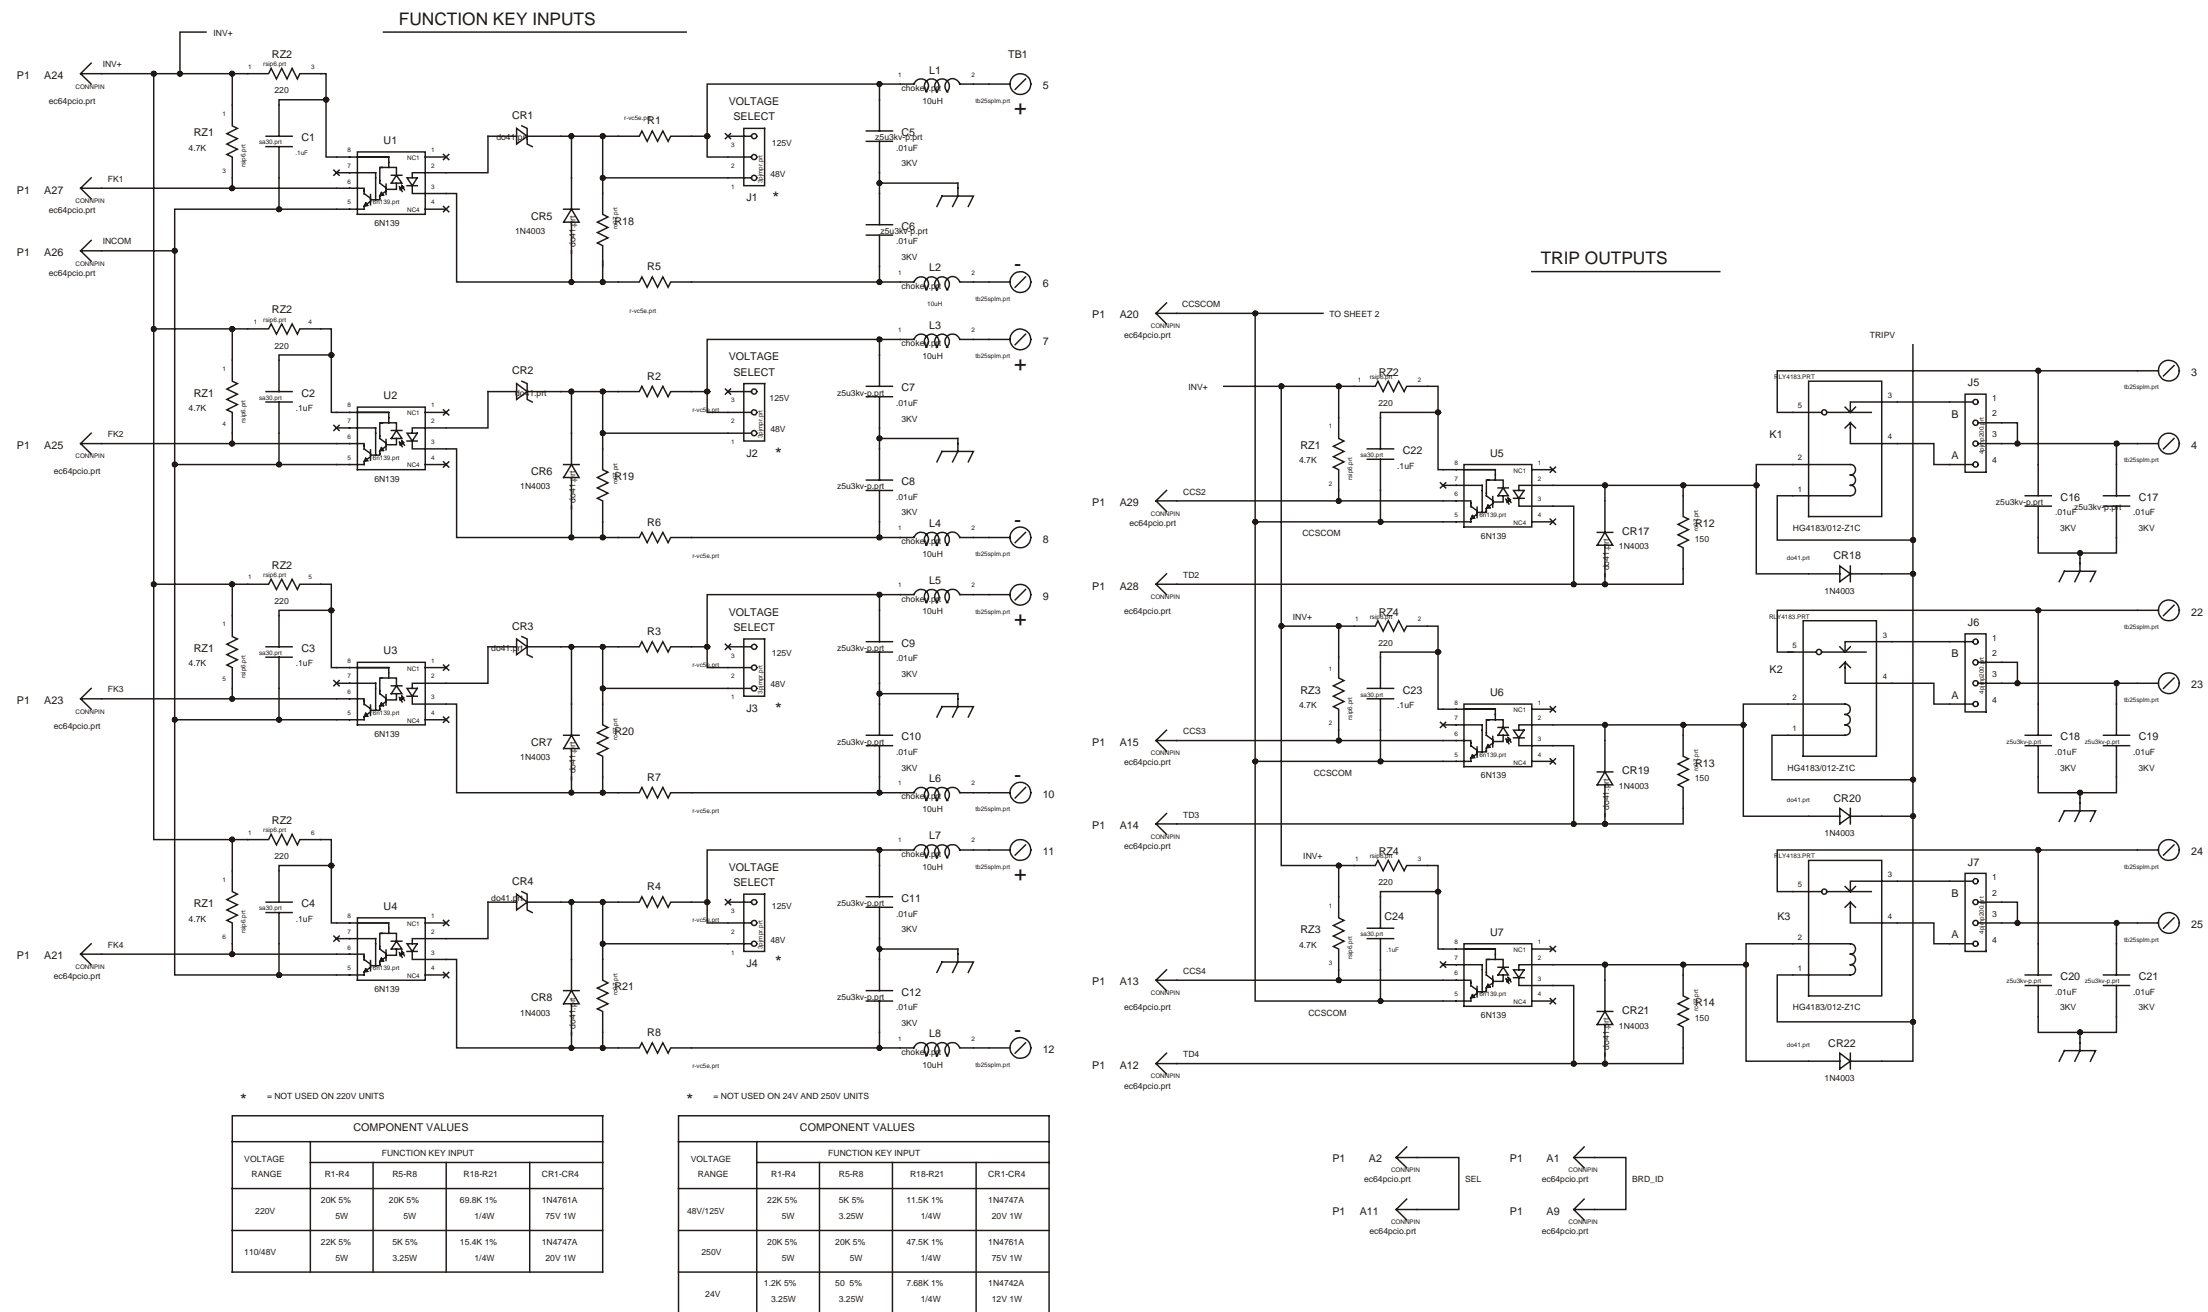

Figure 13-10. Schematic Diagram, 9745 High Speed Relay I/O (Drawing No. D-105959-B) Sheet 1 of 2
10. Figure 13-10. Schematic Diagram, 9745 High Speed Relay I/O (Drawing No. D-105959-B)